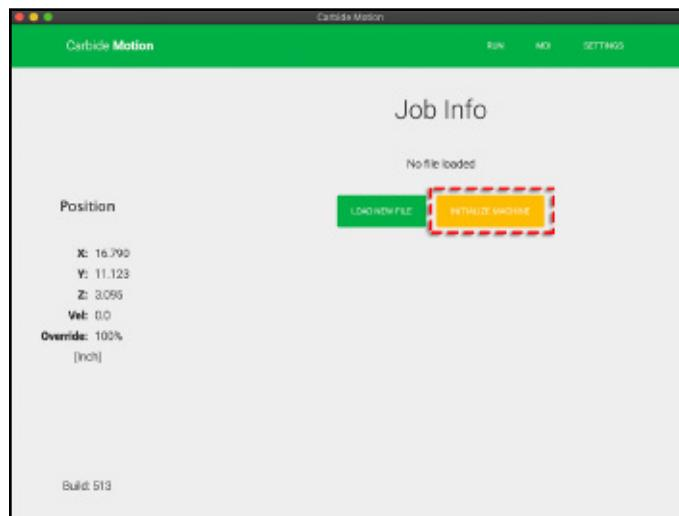

Figure 11-4
- Click the yellow **Initialize Machine** button. See **Figure 11-4**. This activates the homing sequence and your machine will do the following: